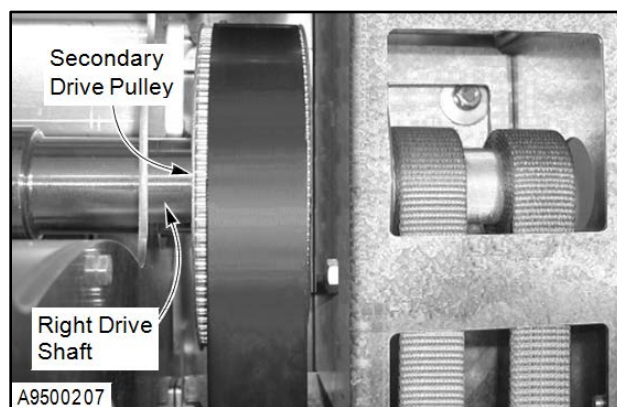

Figure 25
9. Inspect the hardware used to attach the secondary drive pulleys to the left and right drive shafts. Tighten the hardware as required. Replace any missing or damaged hardware. (See Figure 25.)